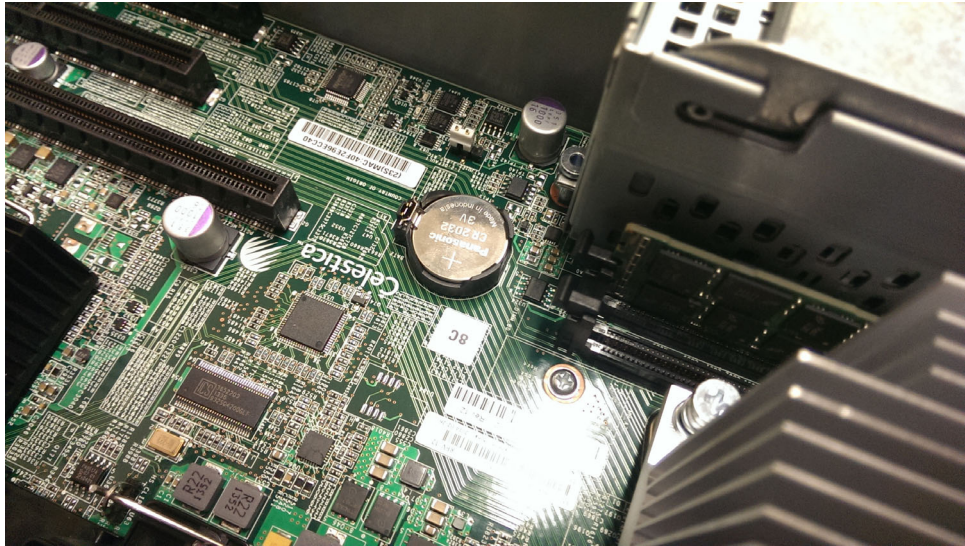

Figure 117. Replacing a CMOS Gen2 battery
3. Locate the CMOS battery inside the node canister.. See Figure 117 on page 372